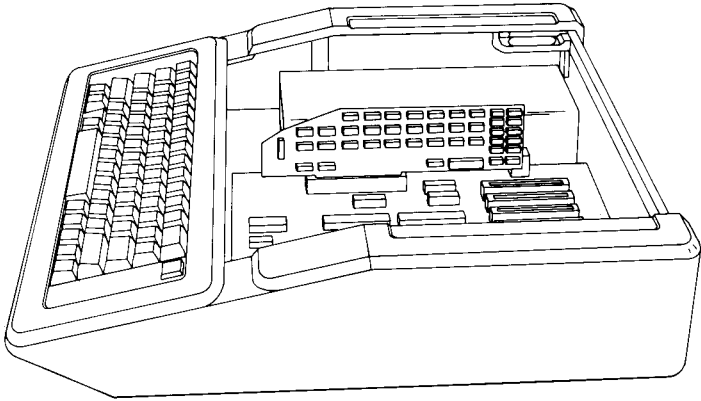

Figure 2.5. Installation of SoftCard IIe
10. Align the SoftCard IIe circuit board in the **AUXILIARY CONNECTOR** slot so that the edge-connector is directly over the connector in the slot. The component side should face the right side of the chassis. Use Figure 2.5 as a guide.